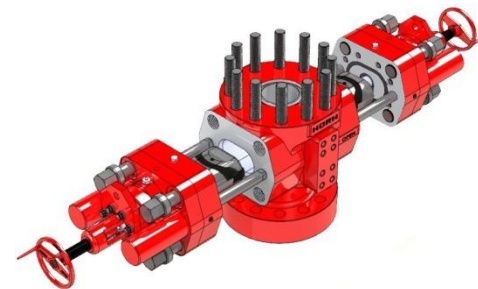

Figure 8: Bonnets Opened
3. Open bonnets (figure 8)
- b. With bonnet bolts unscrewed and rams closed, continue applying hydraulic pressure to the CLOSE side until the bonnets extend out and the ram is visible as seen in the figure 8.